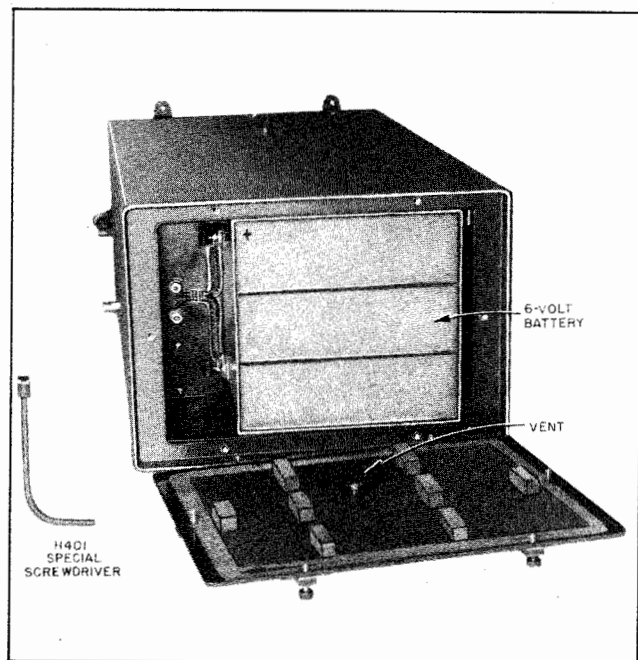
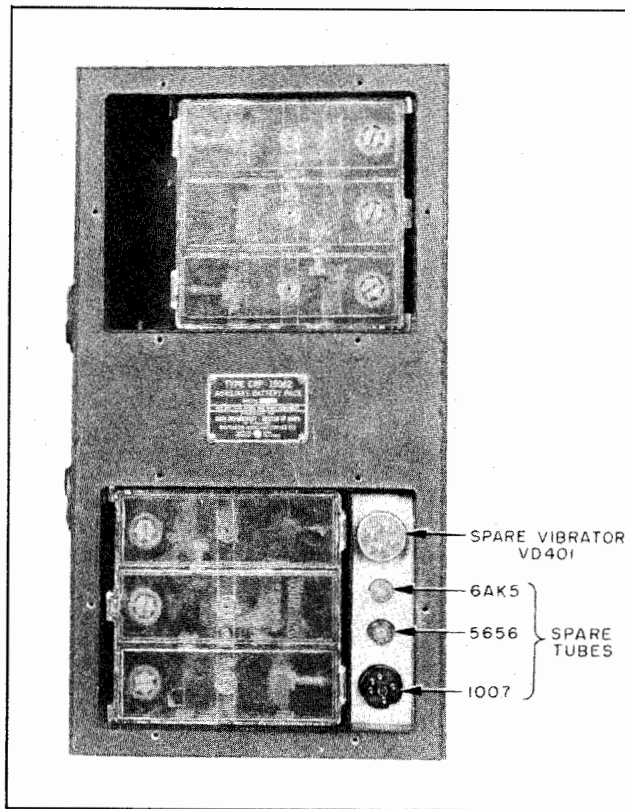

Figure 5-1.—Transmitter-Receiver Battery Compartment.
Figure 5-2.—Auxiliary Battery Pack Compartments.
(1) Loosen the six screws securing the Transmitter-Receiver battery compartment cover with the special screwdriver (H401) clipped to the case, and remove the cover (see figure 5-1). Tilt the Transmitter-Receiver until the battery slides out into the hand, then remove the plug connections from the battery terminals by pulling them straight out. Do not pull on the wires but grasp the plugs themselves.
(2) Using the special screwdriver or a coin, loosen the six screws securing one of the Auxiliary Battery Pack compartment covers. Remove the cover and tilt the pack forward until the battery slides out into the hand (see figure 5-2).
(3) Insert the plug connections into the replacement battery being careful to observe the correct polarity. Both plugs will fit snugly when properly inserted. If polarity is reversed, one plug will fit loosely and the other will not fit at all.
(4) Insert the replacement battery in the Transmitter-Receiver compartment as shown in figure 5-1.
All procedures grouped under this heading require removal of the Transmitter-Receiver from its case. To do this, using the special screwdriver (H401, figure 5-1), loosen the four knurled screws at the top and bottom of the control panel and pull the unit straight out. The battery connections are of the knife-switch type which automatically break as the unit is removed and make as it is replaced. Handle the Transmitter-Receiver with special care when out of the case, and place it on a flat surface for maintenance work. When replacing the unit in its case, make sure that the knurled screws are taken up tight enough to make a waterproof seal.
One spare tube of each field-replaceable type (1007, 5656, and 6AK5) is carried in the Auxiliary Battery Pack (see figure 5-2).